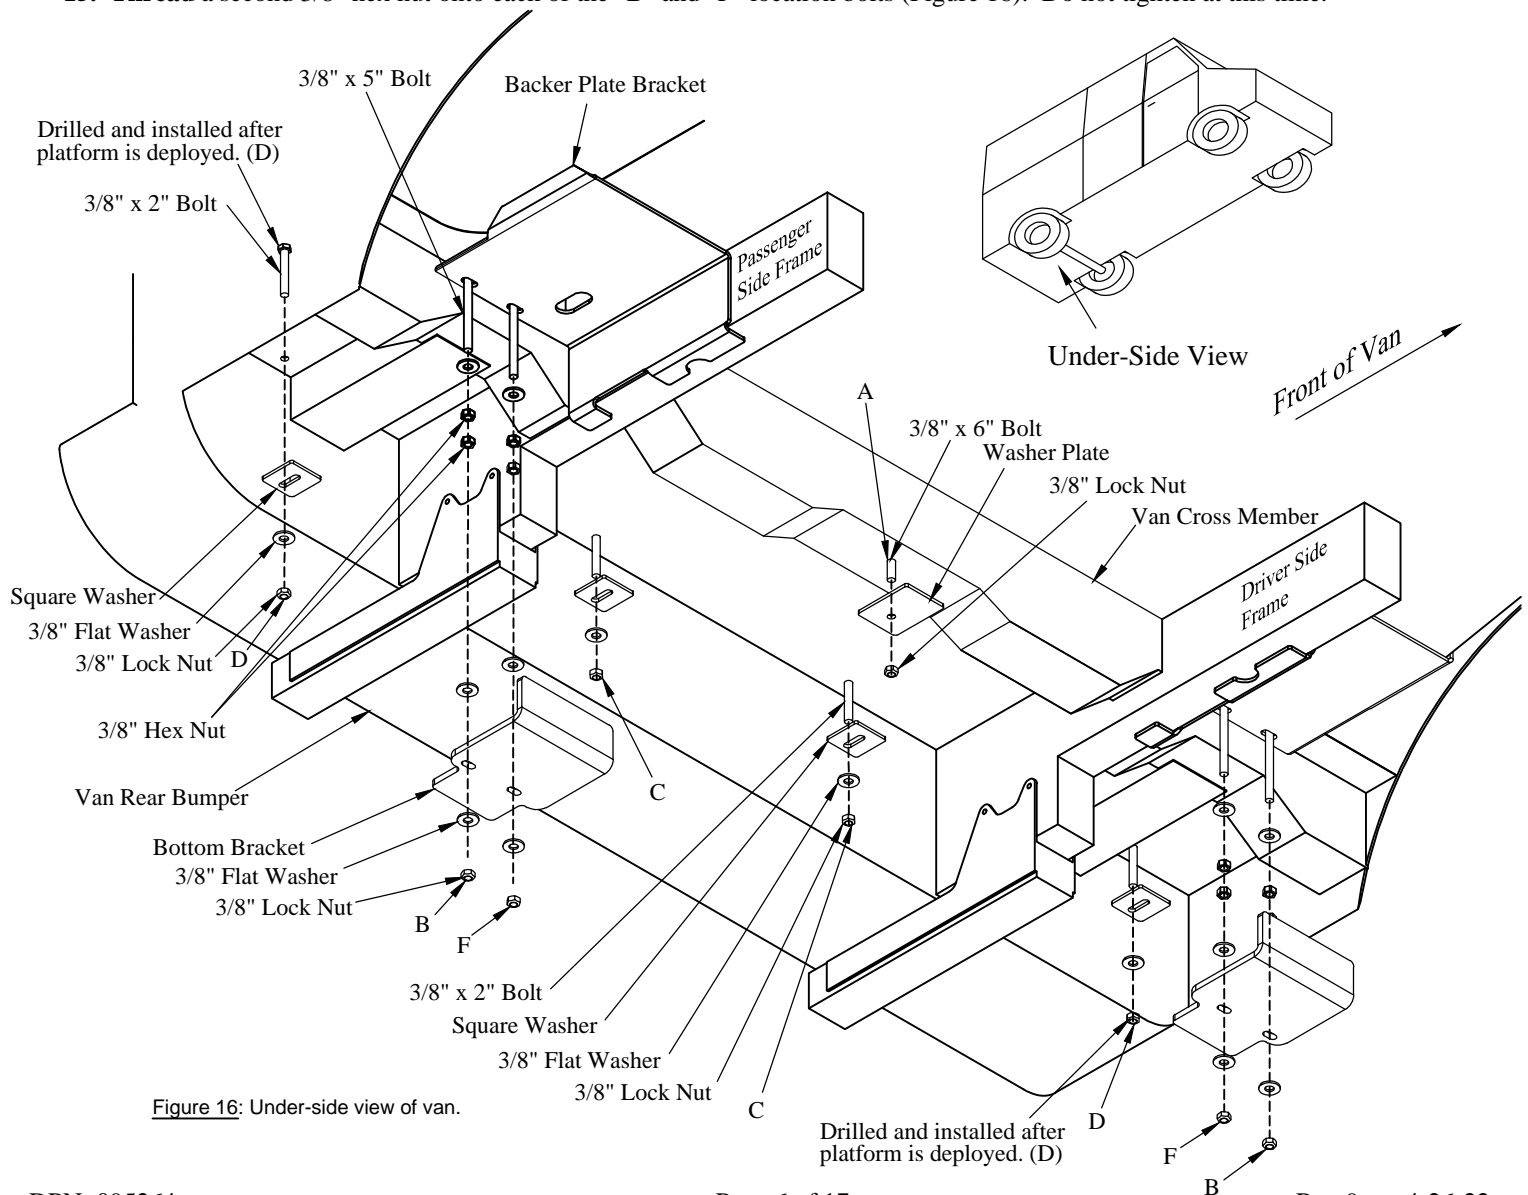

Figure 16: Under-side view of van.
9. **Place** a 3/8" flat washer on each "A", "B", and "F" base plate bolt (Figure 16).
10. **Insert** base plate bolts into holes in base plate extension, down through the floor support and van floor (Figure 16).
(4) 3/8" x 5" fully threaded bolts at "F" and "B" locations.
11. **Insert** base plate bolts into holes in base plate, down through the floor support and van floor (Figure 16).
(1) 3/8" x 6" bolt at "A" location. This bolt will be angled to avoid spare tire mechanism.
12. **Install** square washer, 3/8" flat washers, and 3/8" lock nuts on each of the "C" location bolts (Figure 16).
13. **Install** the backer plate brackets onto the "B" and "F" location bolts (Figure 16).
14. **Secure** backer plate brackets with 3/8" flat washers and hex nuts (Figure 16). Do not tighten at this time.
15. **Thread** a second 3/8" hex nut onto each of the "B" and "F" location bolts (Figure 16). Do not tighten at this time.
16. **Insert** a 3/8" flat washer and then the bottom bracket onto the "B" and "F" location bolts (Figure 16).
17. **Secure** bottom brackets with flat washers and lock nuts (Figure 16).
18. **Install** washer plate on "A" location bolt (Figure 16).
20. **Tighten** all seven (7) bolts in an alternating pattern. "D" mounting holes will be drilled after platform is deployed.